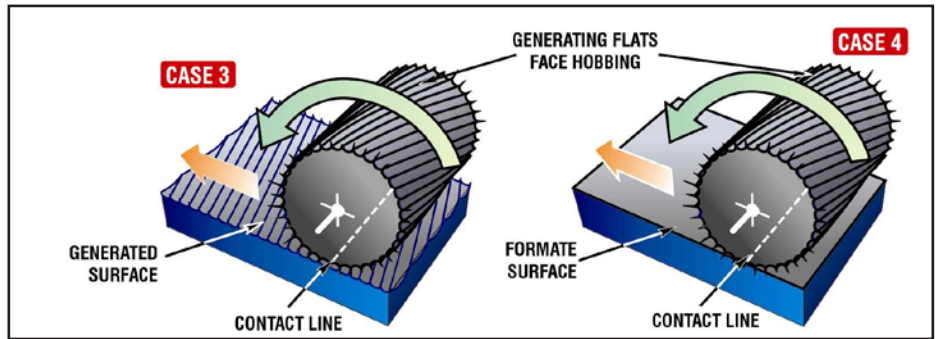

Figure 8 Principal roll condition for face hobbled gearsets.
**Surface topology of face hobbled bevel gears.** Case 3 (Fig. 8, left) is a model of a generated face hobbled flank pair. The contact line between cylinder and plane crosses the generating flats under an angle. This configuration causes a gradual, soft rolling of the cylinder and provides a pumping of the lapping compound through the contacting zone (when the lapping process applies). The result is a high rolling smoothness and good lappability in case 3 (Ref. 6).